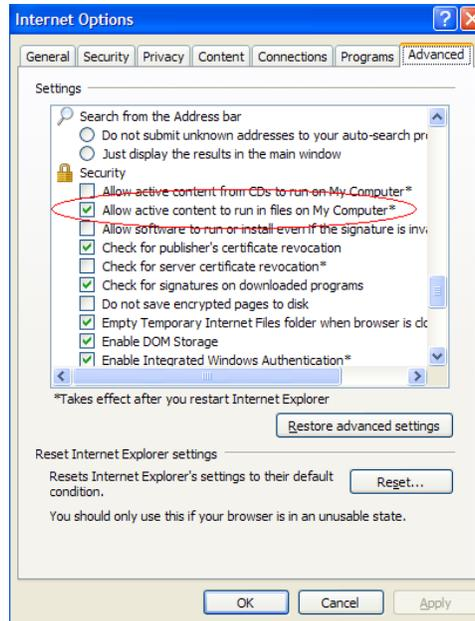

Figure 3-37: Internet Options Window — Advanced Tab
6. In the *Internet Options* window, select the *Advanced* tab, as shown in Figure 3-37.
7. Under *Section Security*, select the **Allow active content to run in files on My Computer** option, as shown in Figure 3-37. This will enable the ActiveX components required to view the HTML messages.